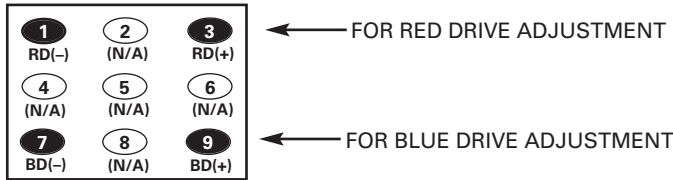

Figure 2.
**Red/Blue Drive Adjustments in Service Menu NO. A7 DRV:** Adjust Red and Blue Drive Levels alternately with 1, 3, 7, and 9 keys on the remote control. See Figure 2. The Drive Level adjustment data will be written in the Service Menu No. 4C RD and 4E BD automatically.